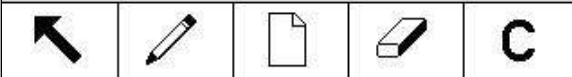
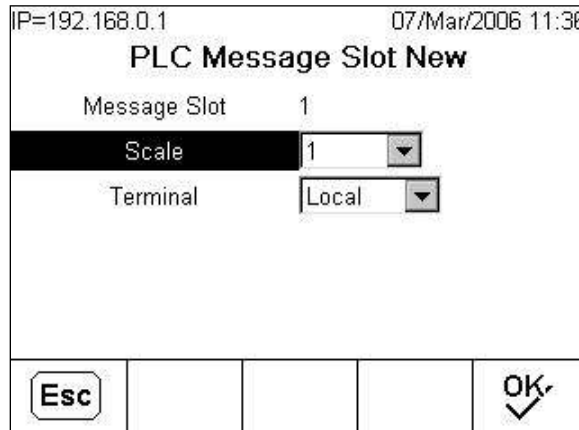

Figure 6-9: PLC Message Slots View Screen
Figure 6-11: New Message Slot Screen
7. Depending on which format is selected, press the VIEW TABLE softkey  to set up the number of **Message Slots** (maximum number is 12; default is 0), or to configure the Template for communications between the IND780 and the PLC. Figure 6-9 shows the Message Slots View, which is viewed whenever the Format is **not** Template.
Figure 6-11 shows the screen that opens when NEW is selected from the Message Slots View screen (Figure 6-9).